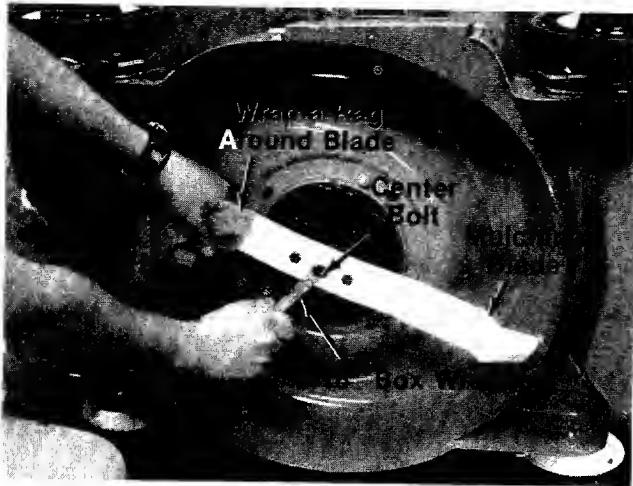

FIGURE 9.
2. Remove the mulching blade by removing only the center bolt and lock washer. A 9/16" box wrench or an adjustable wrench is required. Hold the blade with a rag to prevent cutting your hand. See figure 9.